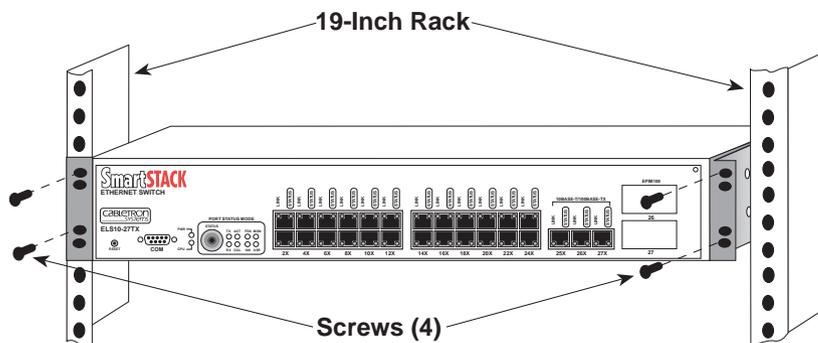

Figure 2-4. Rack-mounting the SmartSTACK Ethernet ELS10-27
- Secure the SmartSTACK Ethernet ELS10-27 with the rackmount fasteners by inserting and securing a fastener through each of the four slots in the rack-mount brackets, as shown in Figure 2-4.